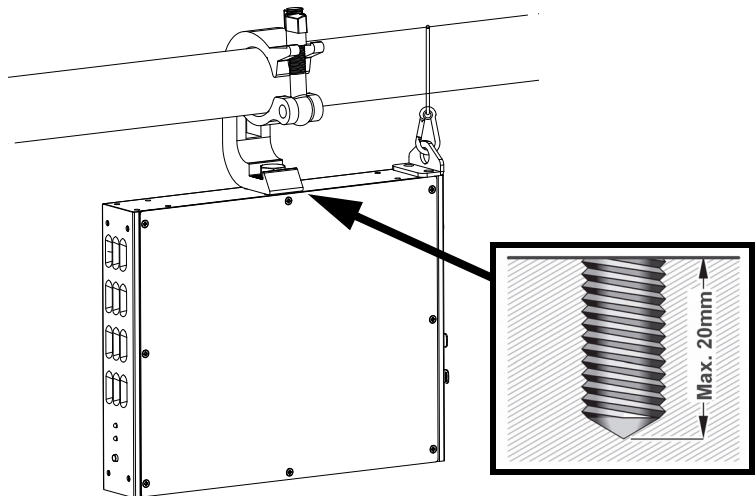

Figure 5: Setup for truss mounting
3. See Figure 5. Using two of the supplied screws, fasten the supplied safety cable attachment bracket to one side of the unit.